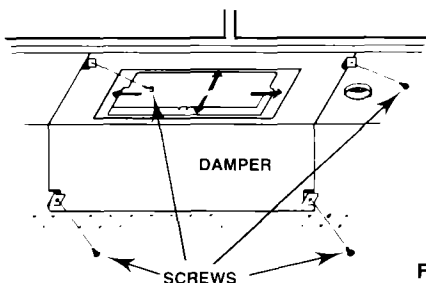

Figure 20
1. Remove damper and damper support by removing four (4) screws. (See figure 20).